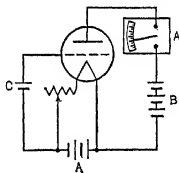

FIG. 249: Milliammeter used to measure plate current of a vacuum tube.
**Example 1.** A milliammeter is used to read the plate-circuit current of a large vacuum tube and is connected as shown in Fig. 249. The apparent resistance from plate to filament is 30,000 ohms, the resistance of the instrument 9 ohms and the voltage of the B battery 700 volts. What is the plate current?